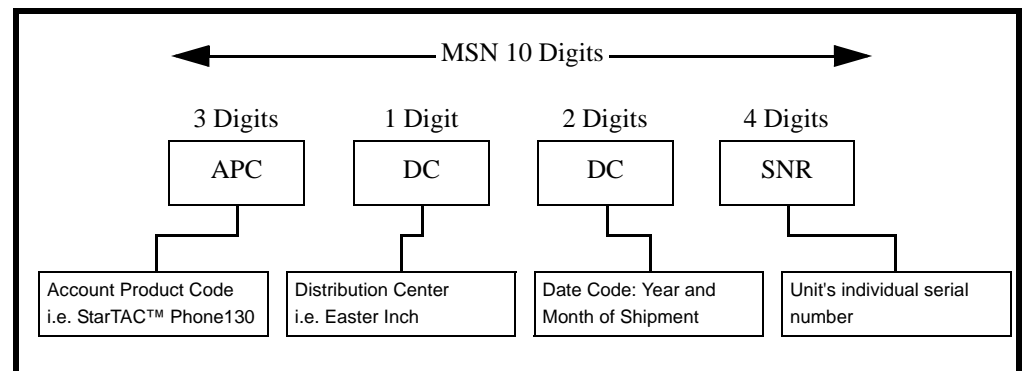

Figure 28. MSN Divisions
- The MSN is divided into 4 sections as shown in Figure 28.